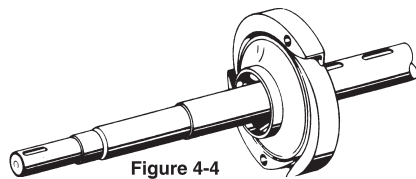

Figure 4-4
4. Insert the shaft/impeller assembly into the diffuser (#9IN). When correctly oriented, the impeller outlet openings will line up with the diffuser openings and the impeller hub will fit into the bore of the diffuser.(refer to figure 4-4)